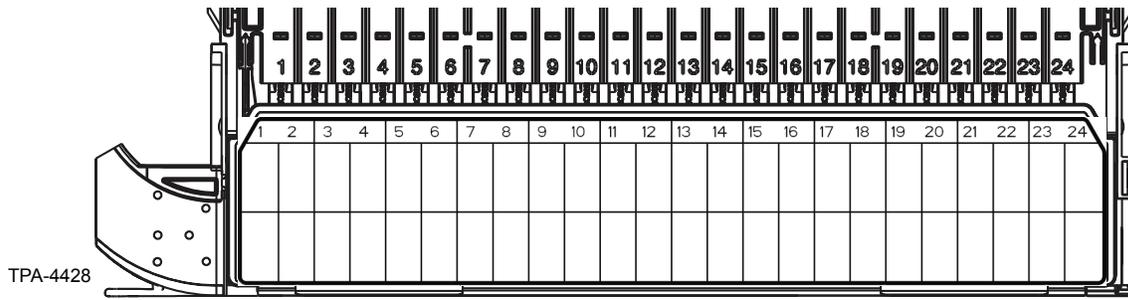

Figure 58
**Step 24:** Affix the designation label to the handle (Figure 58), if necessary.